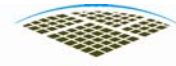

Figure 2. Install Rivets
4. Insert three rivets in the hole locations to secure the panels. Refer to Figure 2.